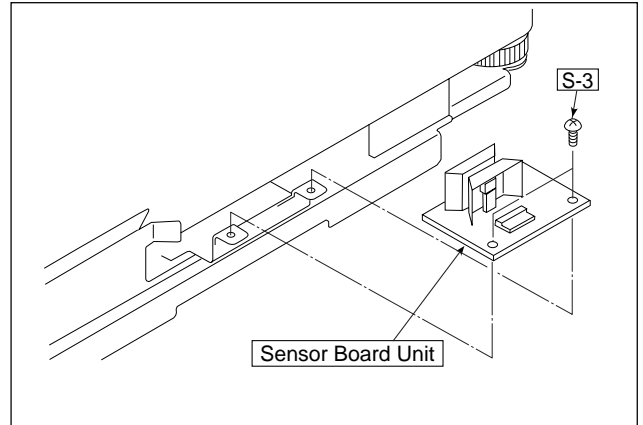

Fig. 12
9) Remove the Sensor Board Unit. (See Fig. 12.)
1. Remove the "S-3" screws shown in Fig. 12 and then remove the Sensor Board Unit.